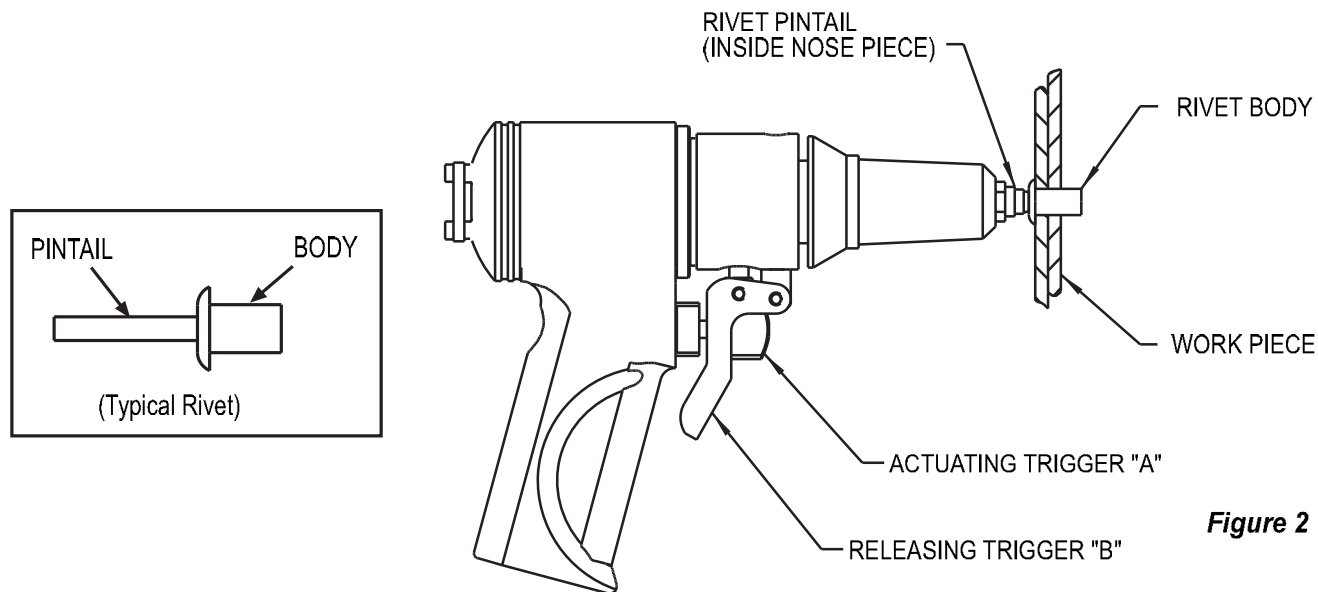

Figure 2
The AK-175 pneudraulic riveter installs fasteners by a pull and release system. Squeezing the ACTUATING TRIGGER "A" only (Fig. 2) will actuate the tool. The tool must be actuated when installing fasteners and changing nose pieces. After installing the fastener or changing the NOSE PIECE the tool must be returned to its original position, this releases the pintail if a fastener was installed. To do this point the tool downward and squeeze RELEASING TRIGGER "B" only (Fig. 3). See sections on NOSE PIECE INSTALLATION and FASTENER INSTALLATION for detailed instructions.
3. Hold the tool steady against the work piece and squeeze ACTUATING TRIGGER "A" only, until fastener is installed and rivet pintail is broken* (see fig. 2 below)